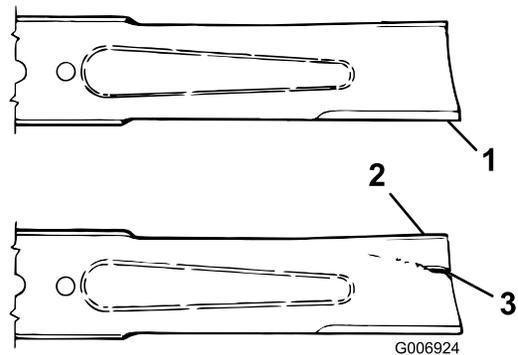

Figure 86
3. Examine the cutting ends of the blade carefully, especially where the flat and curved parts of the blade meet (Figure 86). If wear is noticed (Figure 86), replace the blade; refer to Removing the Cutter Blade (page 63).